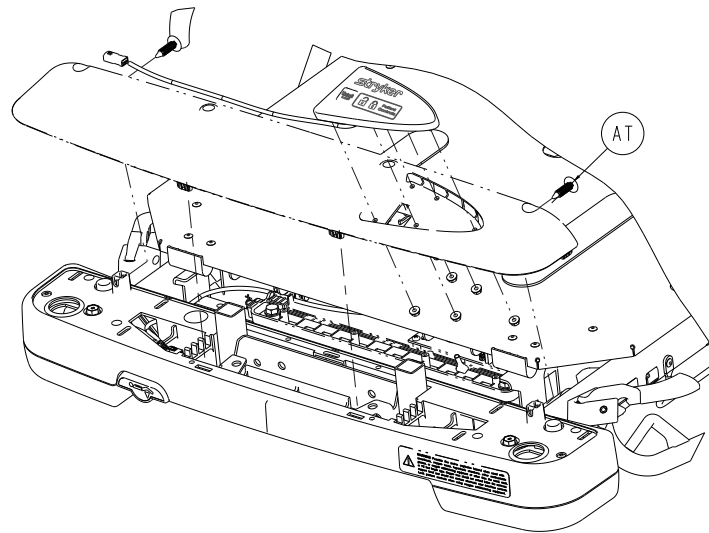

Figure 37 – Panel fasteners
- Using a plastic fastener removal tool, remove the two panel fasteners (AT) that secure the foot end top cover to the foot end mid cover (Figure 37). Discard the panel fasteners.
16. Install the two supplied panel fasteners (0029-027-000) (AT) to secure the top cover assembly to the mid cover (Figure 37).